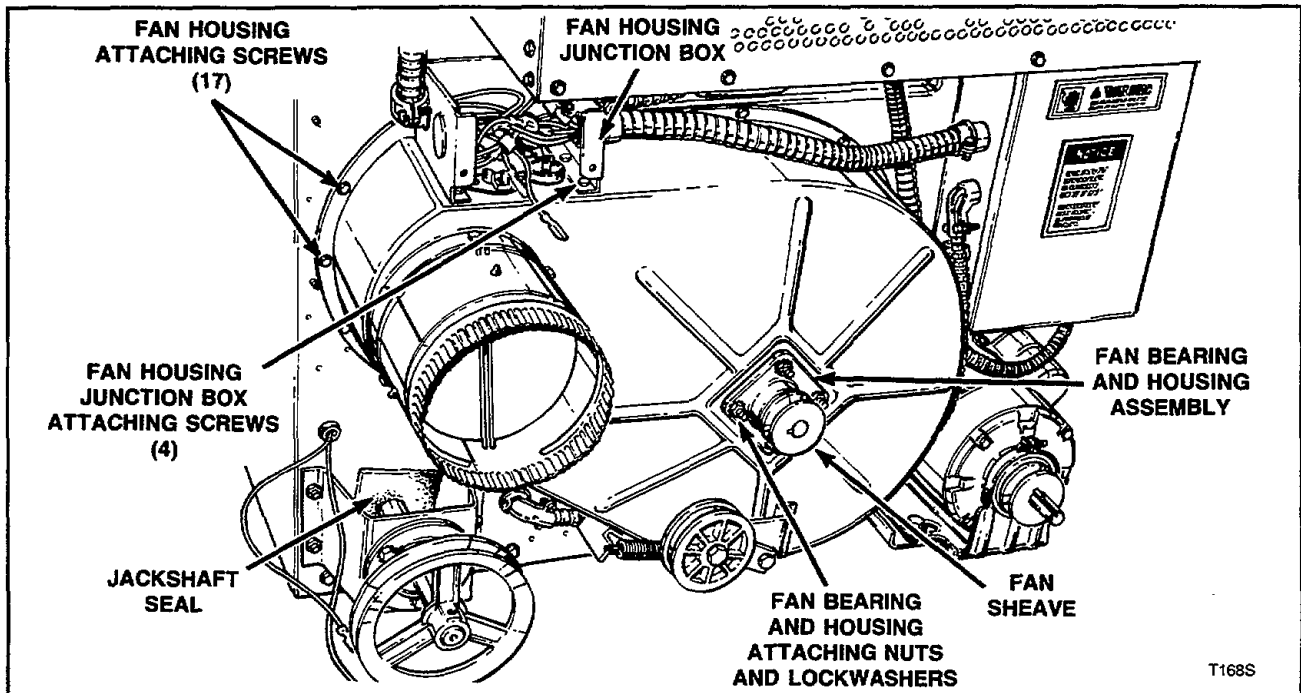

Figure 29
- Remove screws from fan housing junction box cover and remove cover, *Figure 29*.
- Remove 17 screws holding fan housing to cabinet back, *Figure 29*.